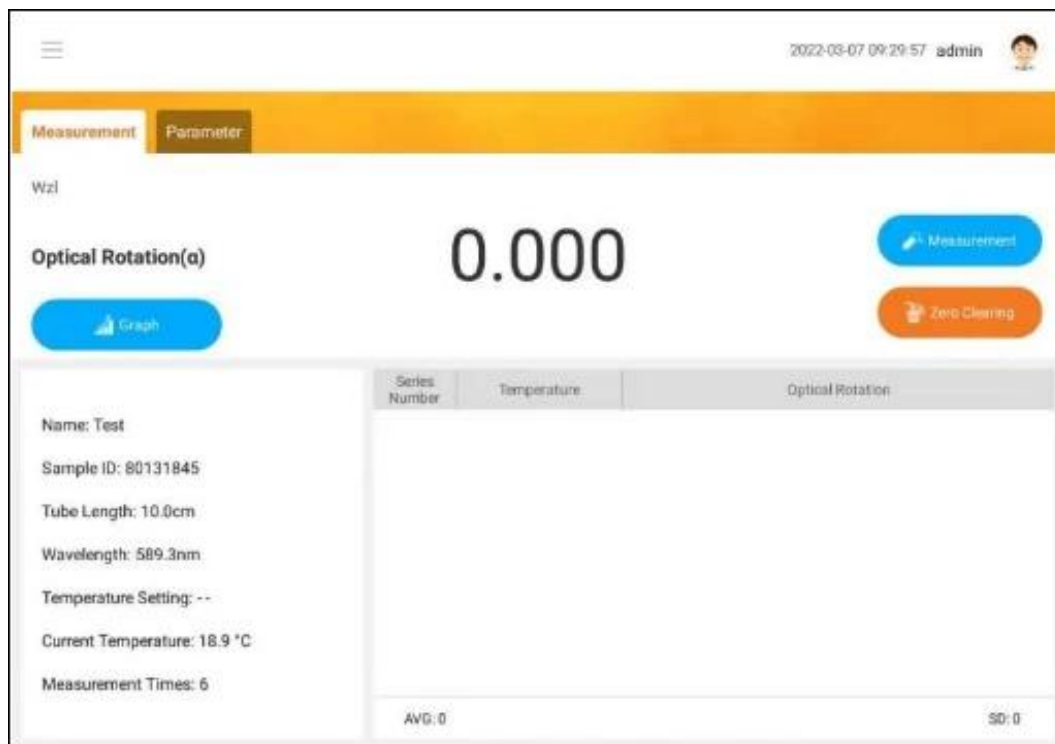

Figure 40
2. Start the instrument and log in the user account to the following interface, as shown in Fig.40
5. Open the upper computer software, as shown in Fig.40, select the COM port connected to the computer, and the upper computer configuration is complete.